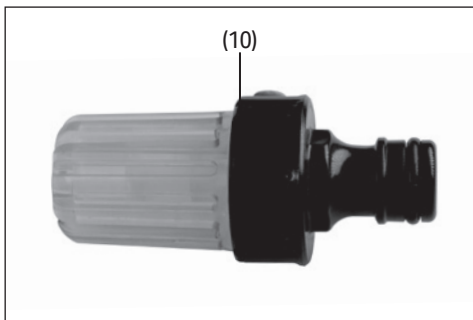
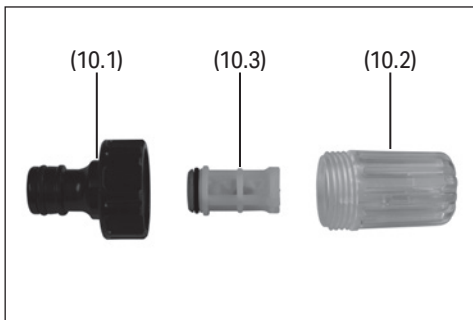

Fig. 13
Fig. 14
9.1 Hose Filter Cleaning - Fig.13 - Fig.14.
- Remove the filter (10) from the hose and unscrew the clear section (10.2) from the connector (10.1).